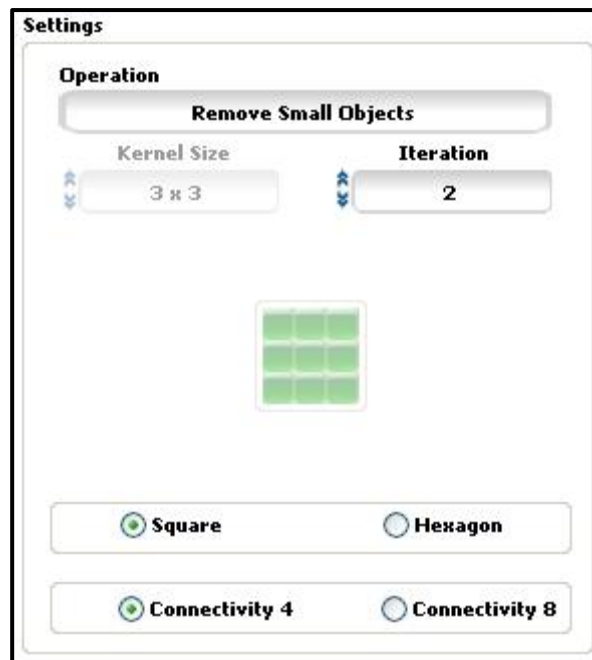

Figure 34. Set kernel size, iteration and other parameters.
5. Set the parameters i.e. Close Objects: Iterations, Square/Hexagon, Connectivity [Figure 34].